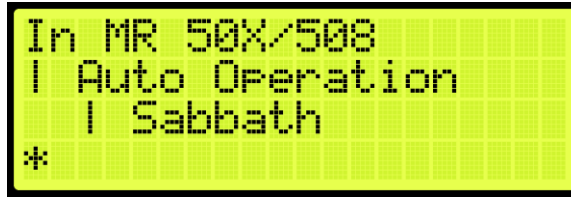

Figure 280: Input Menu
8. Scroll and select Auto Operation (See Figure 280).
10. Scroll and select Sabbath (See Figure 280).